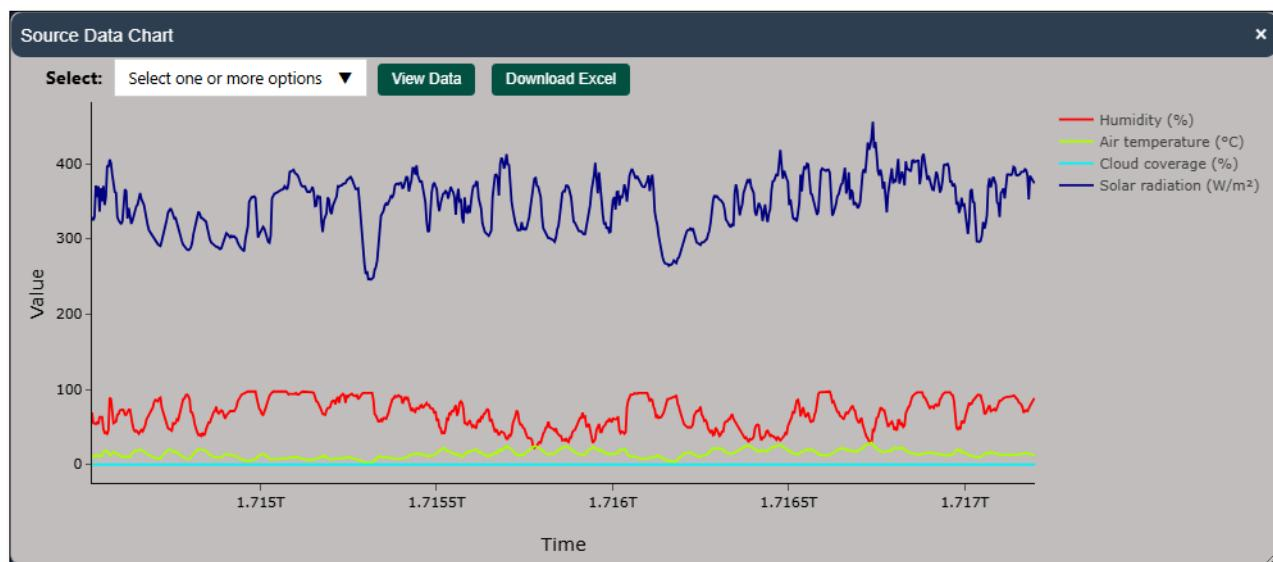

Figure 2.29. Plot meteorological parameters
- *Step 2:* Once the meteorological data is loaded successfully, the user can plot to check data by using the “***Plot data***” button and save data to the project by using the “***Create/Update meteo data***” button (**Figure 2.29**). The user also clicks on the “***Delete table***” button to entirely remove the existing data and repeat the above steps to upload a new dataset.